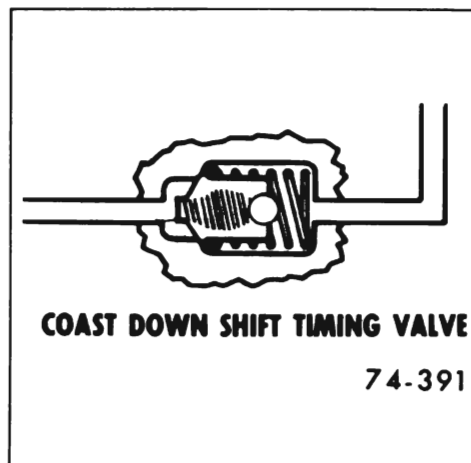

Figure 74-23 - Coast Downshift Timing Valve
l. Coast Downshift Timing Valve (See Figure 74-23)